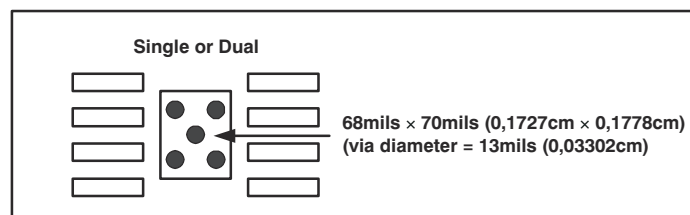

Figure 8-4. Thermal Pad PCB Etch and Via Pattern
2. Prepare the PCB with a top-side etch pattern as shown in Figure 8-4. Use etch for the leads as well as etch for the thermal pad.